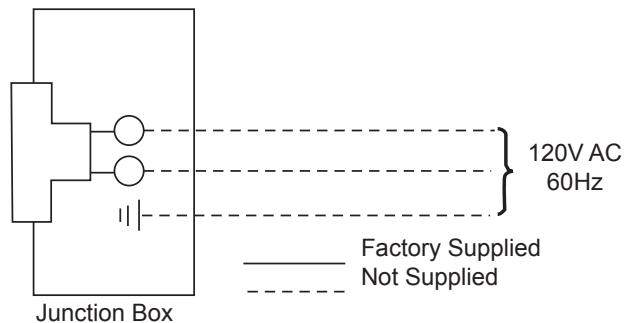

Figure 53 -
3. The junction box cover has a factory installed "romex" style strain relief connector. After connecting the wires, route the wire leads through this connector. Refer to the wiring diagram in *Figure 53*